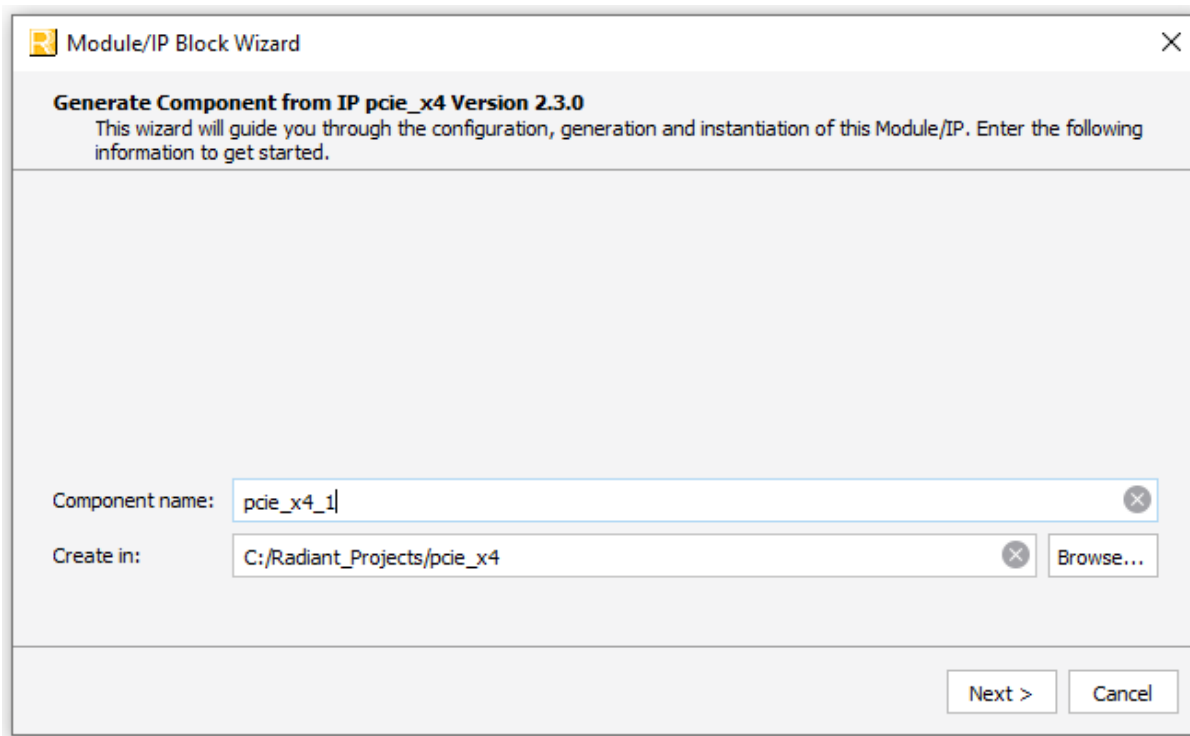

Figure 7.1. Module/IP Block Wizard
2. In the **IP Catalog** tab, double-click **PCIE\_X4** under **IP, Connectivity** category. The **Module/IP Block Wizard** opens as shown in Figure 7.1. Enter values in the **Component name** and the **Create in** fields and click **Next**.
- Click **Finish**. All the generated files are placed under the directory paths in the **Create in** and the **Component name** fields shown in Figure 7.1.